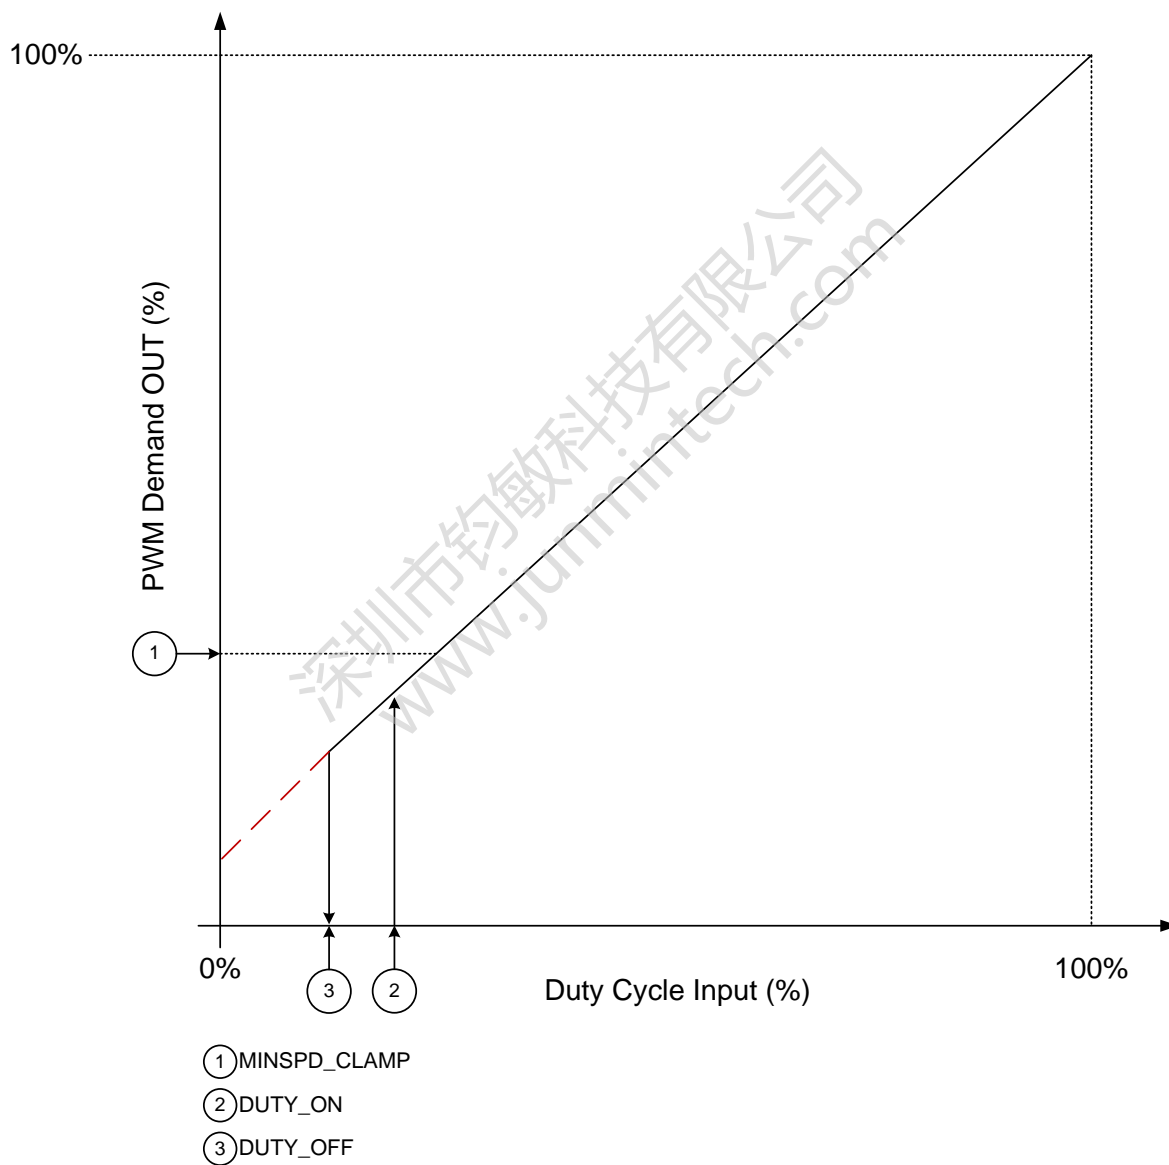

Figure 1) Speed Input Characteristic
**FG.** Open drain output provides speed information to the system. FG changes state one period per electrical revolution of the motor (as shown in Figure 1).